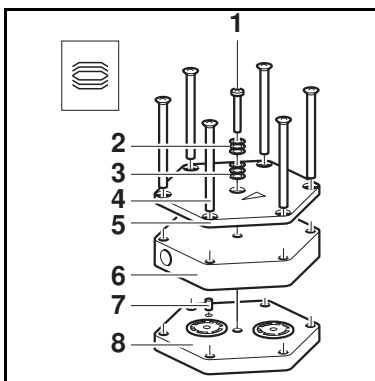

Fig. 24: Refitting pump head
1. For two-headed pumps: On the pneumatic head connection (3), loosen the union nuts (2) by hand. Then slightly loosen the angle-fitting (1) in the pump head (4) by turning it anticlockwise, so that the connecting tube can be pulled out.
2. Mark the position of top plate (fig. 24/5), head plate (fig. 24/6), intermediate plate (fig. 24/8) and adapter relatively to each other by a drawing line (for two-headed pumps: at both pump heads) with a felt-tip pen (1). This helps to avoid incorrect assembly later.
2. Place the intermediate plate (8) with valve plates/sealings on the adapter in accordance with the felt-tip pen marking.
3. Place the head plate (6) on the intermediate plate (8) in the position indicated by the guide pin (7).
4. Place the top plate (5) on the head plate (6) in accordance with the felt-tip pen marking.
5. Gently tighten screws (4) in diagonal order.
6. Insert screw(s) (1) with disk springs (2, 3) in the center of the top plate (5). In doing so, make sure that the disk springs are arranged properly (see fig. 24).
7. Screw in the screw/screws (1) in the centre of the pump top plate (5) until it is flush with the top plate (they are flush with the top plate); then screw one final half turn to tighten.